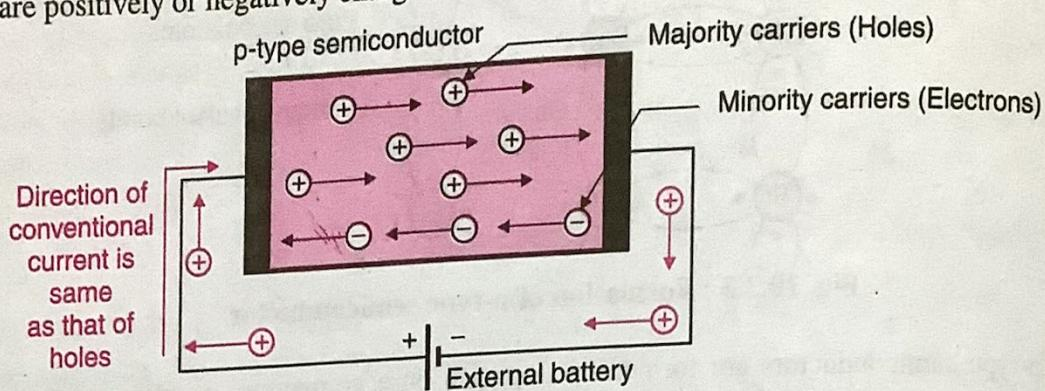

Fig. 10.3.4 : Conduction in a p-type semiconductor
The conduction inside a p-type semiconductor is as shown in Fig. 10.3.4.
- When an external dc source is applied across a p-type material, the holes move in the valence band. The movement of holes is towards the negative terminal of the supply. The free electrons move towards the positive terminal of the battery, as shown in Fig. 10.3.4.